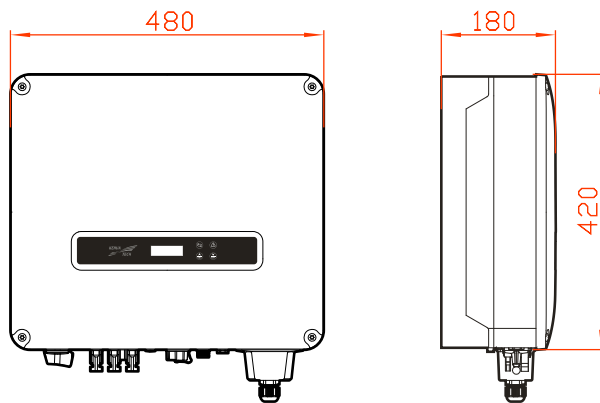

Figure3-6 Size (unit: mm)
- Step 1 Determine the installation place based on the inverter size (as shown in Figure3-6) and installation space (as shown in **3.2.3 Installation Space**).